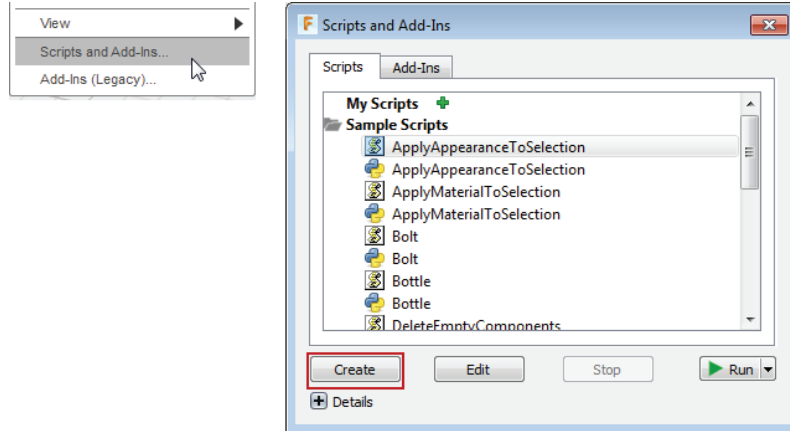

Figure-62. Script and Add-ins
- Click on **Script and Add-Ins** tool from **File** menu. The **Script and Add-Ins** dialog box will displayed; refer to Figure-62.